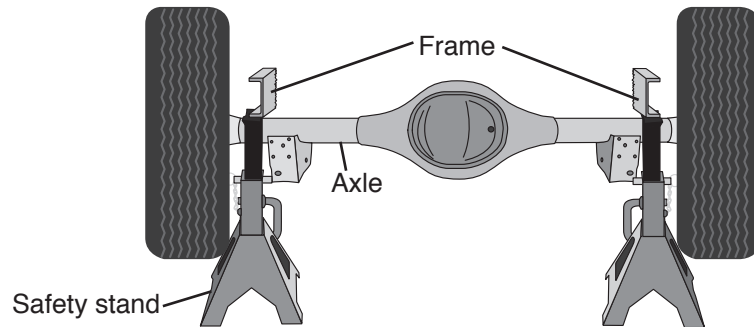

fig. 1
1. Jack up the rear of the vehicle or raise on a hoist. Support the frame with safety stands. Lower the axle or raise the body of the vehicle until the suspension is fully extended (Fig. 1).